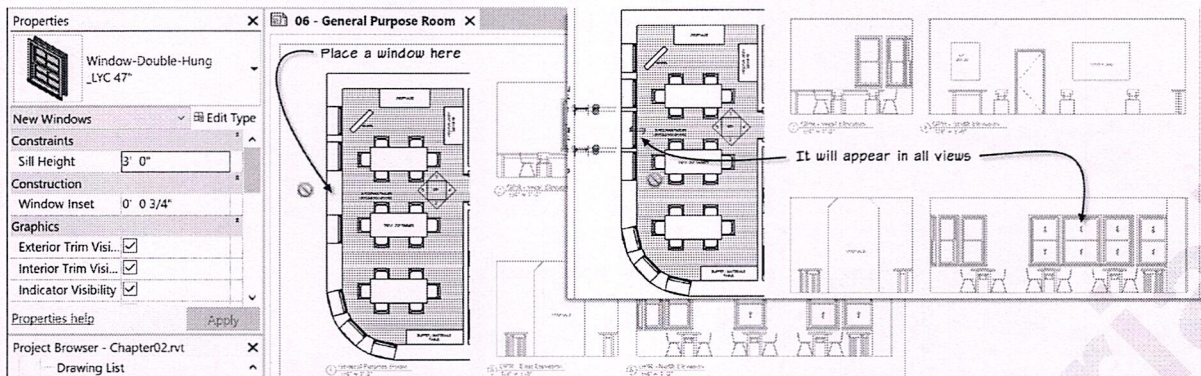

FIGURE 2.19 Add a window and it appears in all appropriate views automatically
- ⇒ Click a point on the exterior wall on the left to add a new window (see Figure 2.19).